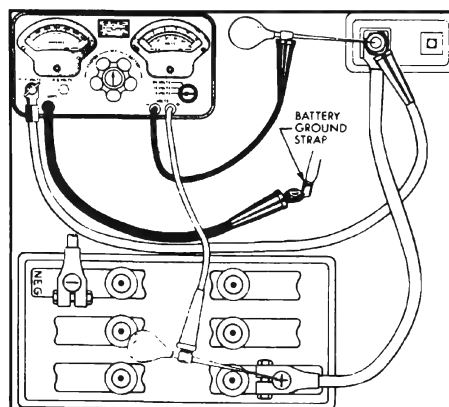

Figure 10-5—Battery Cable Test Connections
2. Connect ammeter positive (+) lead to battery terminal stud on junction block. Connect ammeter negative (-) lead to one side of rheostat and connect other side of rheostat to ground on engine, preferably at point where battery ground strap is attached. In the instrument shown in Figure 10-5 the ammeter and rheostat are connected in series inside the case.
junction block. Use prod with voltmeter lead, if necessary, to insure direct contact with the terminal stud. Do not connect to the ammeter lead clip. Attach a prod to voltmeter positive (+) lead and apply the prod to center of battery positive (+) post (Figure 10-5). Make sure that clips of voltmeter leads have clean metal contact with prods.